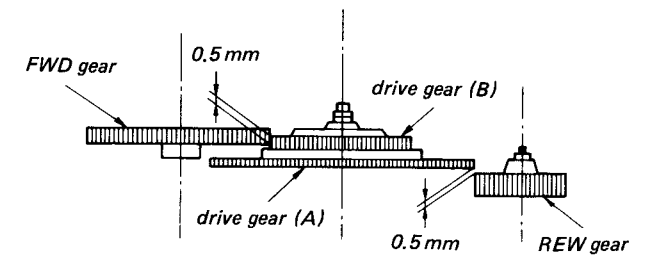

Fig. 1 In play mode
- At Supply Side Tape Guide (Fig. 1)
Make sure that each gear is positioned as illustrated in Fig. 1.